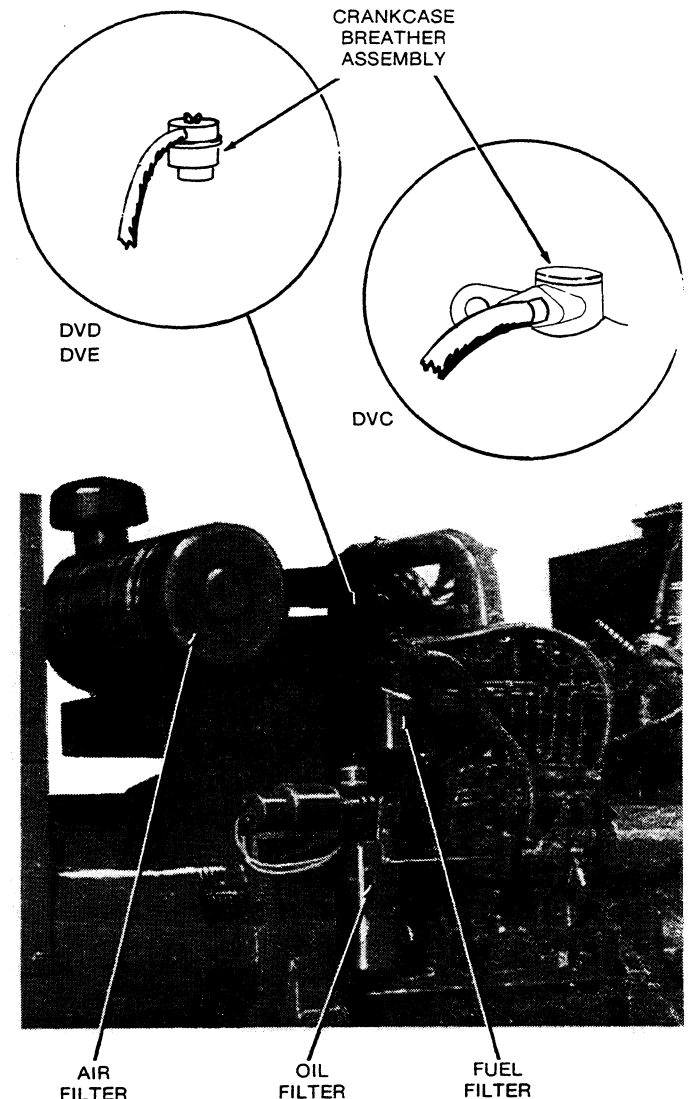

FIGURE 4. FILTER LOCATION
3. Unscrew the "spin-on" type oil filter and discard (see Figure 4).
To clean the crankcase breather element, remove top cover from the breather assembly shown in Figure 4. Remove element, rinse in diesel fuel and reinstall.